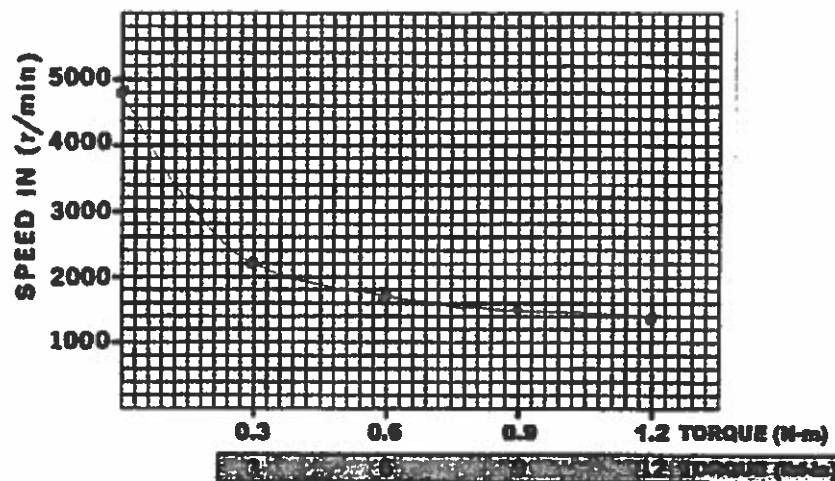

Figure 25-2.
5. a. Plot the recorded motor speed values from Table 25-1 on the graph of Figure 25-2.